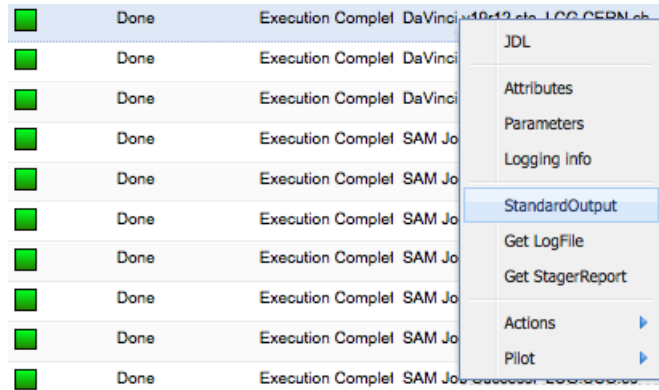

Figure 2: Peek the `std.out` of a job via the Job Monitoring Webpage.
- Select “StandardOutput” (Fig. 2).